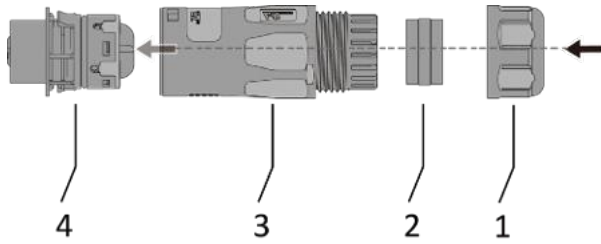

Fig. 21. EPS connection plug
1. Description of the individual parts of the EPS connector [see Fig. 21]